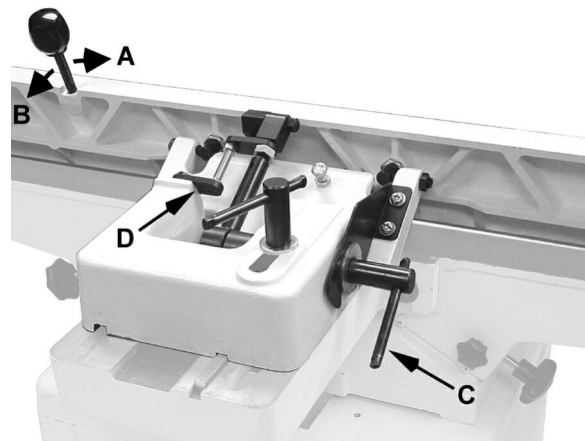

Figure 8-2
1. Loosen locking handle (C, Figure 8-2).
2. Move the lever forward (A, Figure 8-2) to the desired angle down to 45 degrees. Or you can place your reference piece on the table and against the fence, and adjust the fence until the angle of the fence matches the bevel of your gauge piece.
3. Tighten locking handle (C, Figure 8-2).
2. Loosen locking handle (C, Fig. 8-2).
3. Flip the 90° stop block (D, Fig. 8-2) out of the way.
Move the lever (B, Fig. 8-2) back to the desired angle up to 135 degrees. Or you can place your beveled reference piece on the table and against the fence, adjusting the
5. Tighten locking handle (C, Fig 8-2).
4. **Important:** When the tilted operation is finished and the fence is returned to 90°, do not forget to flip the 90° stop block (D, Fig. 8-2) back to its original position.
6. Loosen locking handle (C, Fig. 8-2).
7. Flip the 90° stop block (D, Fig. 8-2) out of the way.
8. Move the lever (B, Fig. 8-2) back to the desired angle up to 135 degrees. Or you can place